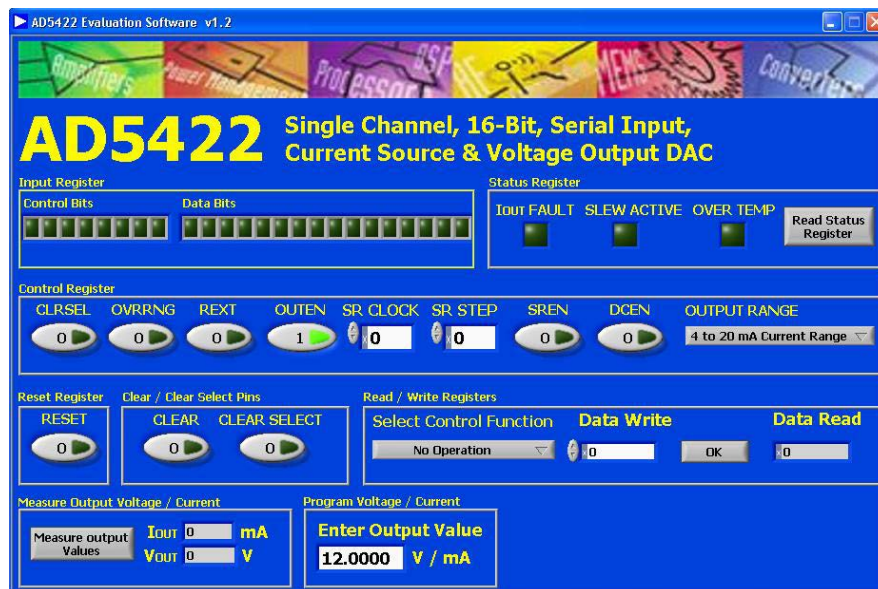

Figure 3. Main Window
1. From the **Start** menu, select **Analog Devices – AD5422/AD5422 Evaluation Software**. The main window of the software then displays (see Figure 3).